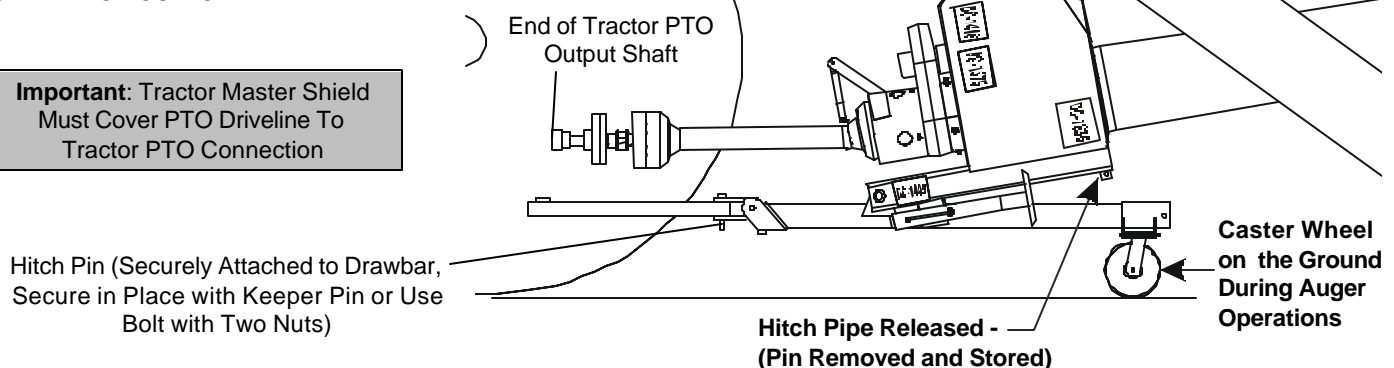

Fig. 3
- B. Attach the hitch clevis to the tractor drawbar using either the hitch pin and keeper, or a bolt with two (2) nuts. Refer to the Fig 3 on page 33.